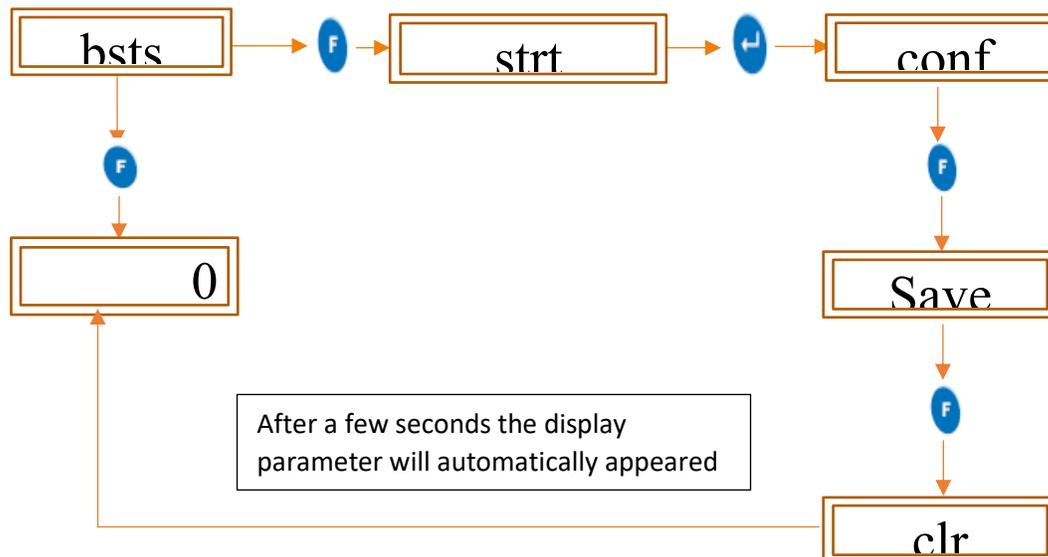

Figure 23 BSTS (Batch start)
- To set the Batch start/stop, follow the procedure shown in figure 23 and 24.